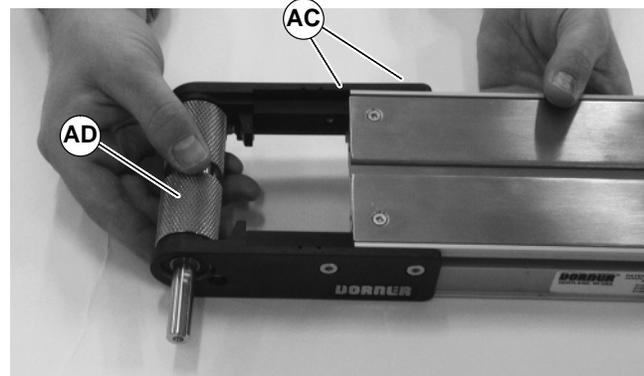

Figure 21
4. Remove (2) headplate mounting screws (AC of Figure 21) from opposite side of drive pulley. Remove drive pulley/headplate assembly (AD).